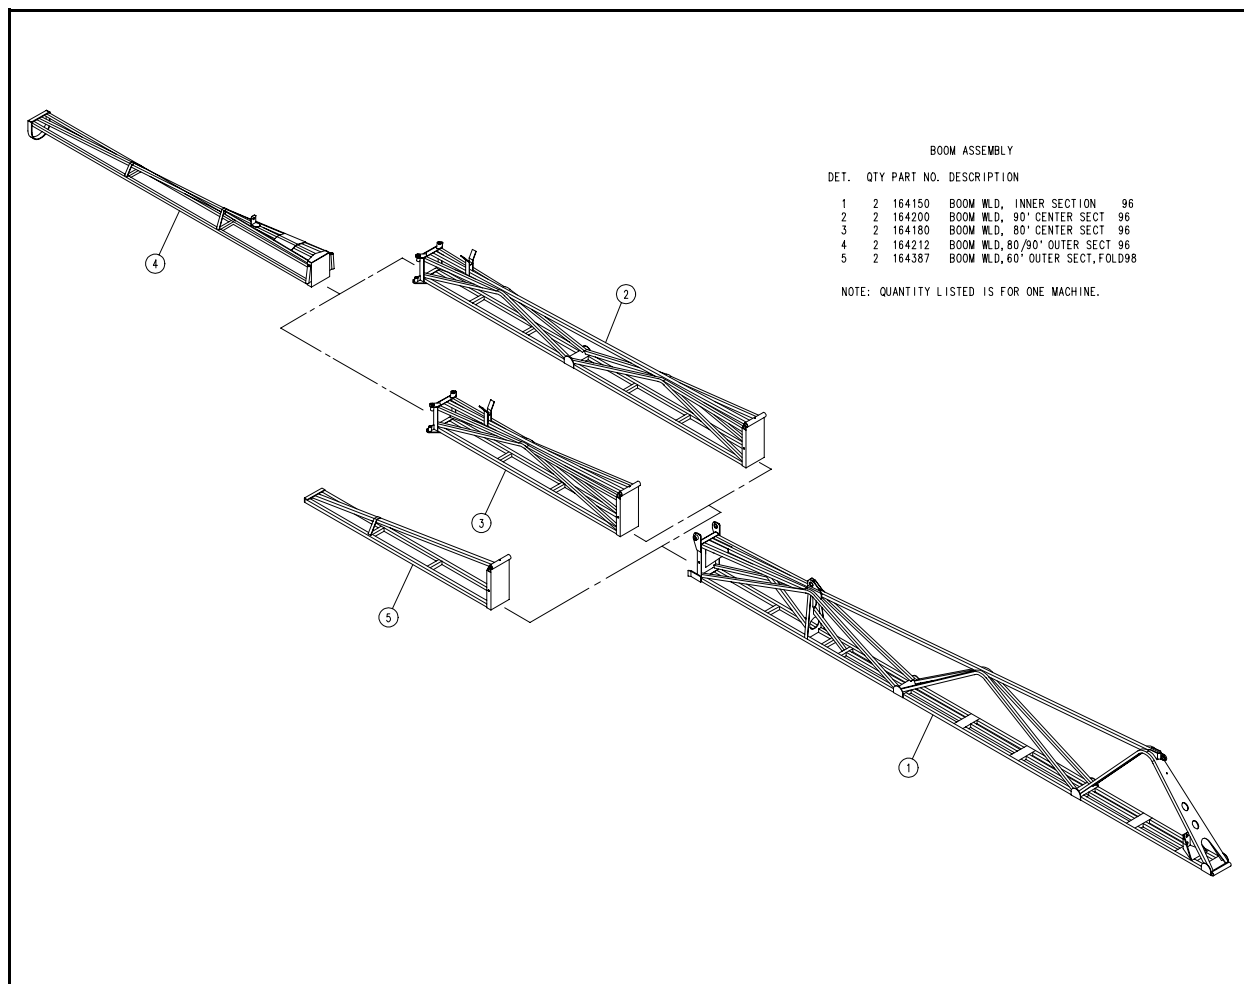

FIG. 4.9
- The booms come in 60 ft., 80 ft., or 90 ft. lengths (fig. 4.9). Refer to the parts manual for detailed drawings for the correct hardware and hydraulic components when attaching to the transom.